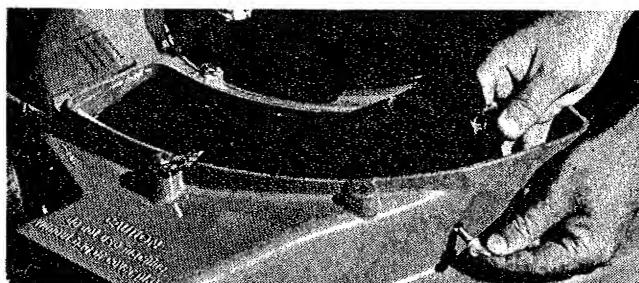
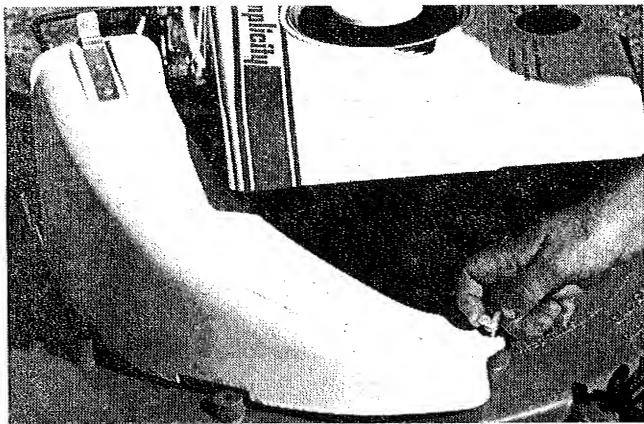
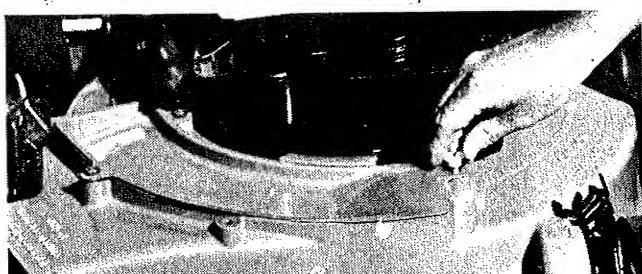

FIGURE 13
FIGURE 14
FIGURE 19
3. Install the grass deflector, placing the slotted tab under the outer spring bolt. Align the deflector hole with the hole at the front of the mower housing and secure thumb screw, finger tight. (See Figure 13). Position the grass catcher housing over the opening in the mower deck and slide the slotted tabs under the spring bolts. Secure with thumb screw, finger tight. (See Figure 14).
Mulching: As the mowing season progresses and the grass becomes less juicy, the grass clippings may be left on the lawn without harming lawn appearance or new lawn growth. To accomplish this, use your Simplicity as a mulcher. To use the mower as a mulcher, the grass deflector plate (See Figure 13) and mower deck cover (See Figure 19) should be installed. The fine, evenly spread clippings will add valuable nutrients to the soil.